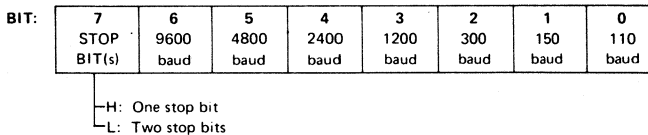

FIGURE 5—DATA BUS ASSIGNMENTS FOR RATE COMMANDS
Addressing the load-rate-register function causes the TMS 5501 to load the rate register from the data bus and interpret the data bits (See Figure 5) as follows.
The rate select bits (bits 0 through 6) are mutually exclusive, i.e., only one bit may be high. A high in bits 0 through 6 will select the baud rate for both the transmitter and receiver circuitry as defined below and in Figure 5:
3.4 TIMING REQUIREMENTS OVER FULL RANGE OF RECOMMENDED OPERATING CONDITIONS (SEE FIGURES 5 AND 6)